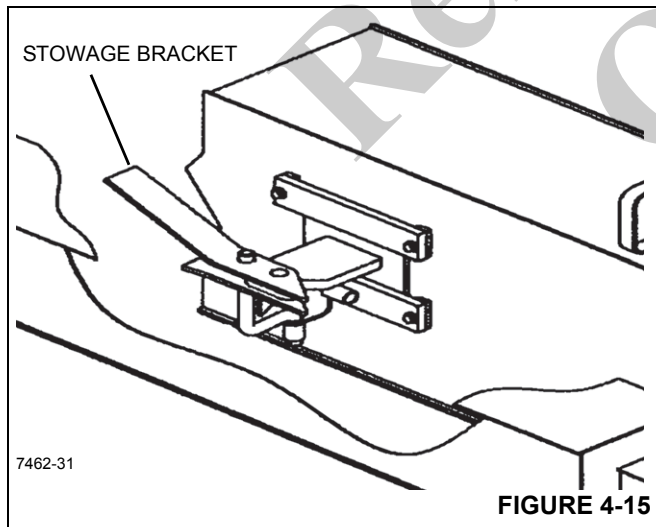

FIGURE 4-15
It is extremely important for the safety of the crane operator and all others working near the crane that the jib boom extension be properly secured to the jib stowage bracket (Figure 4-15) and to the boom nose of the main boom.
5. With jib pinned to the sheave head, swing the jib parallel to the boom and secure to the jib stowage bracket Figure 4-15.